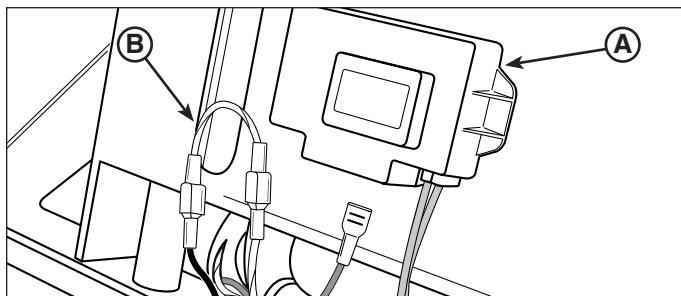

Figure 2. Disconnecting the Wire Harness
3. Disconnect the three (3) wires from bottom of the Magura electronic box (**A, Figure 2**).
4. Using the wire jumper (**B**) connect the black wire and white/red wire as shown in Figure 2, leaving the orange/white wire disconnected.